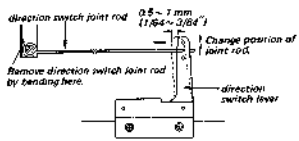

Fig. 3-17. Direction switch joint rod stroke adjustment
1. Place the unit in the STOP mode. Push the tip of the direction switch lever slowly in the direction shown by the arrow in Fig. 3-17 as far as the slide switches on the playback and the bias sec. circuit boards are changed. (Do not move the position of switch)